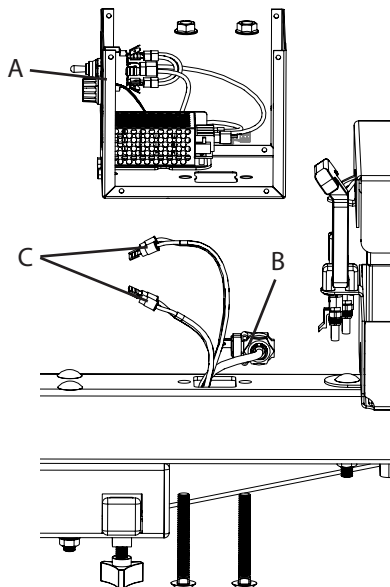

Figure 5: Removing the speed control/switch box.
- Unbolt the speed control/switch box from the frame rail (A). (Figure 5)
- Make sure the foot switch (B) and the motor harnesses (C) are pulled out of the speed control/switch box through the opening in the base. (These will have to be pulled into the new speed control/switch box in the following steps.)